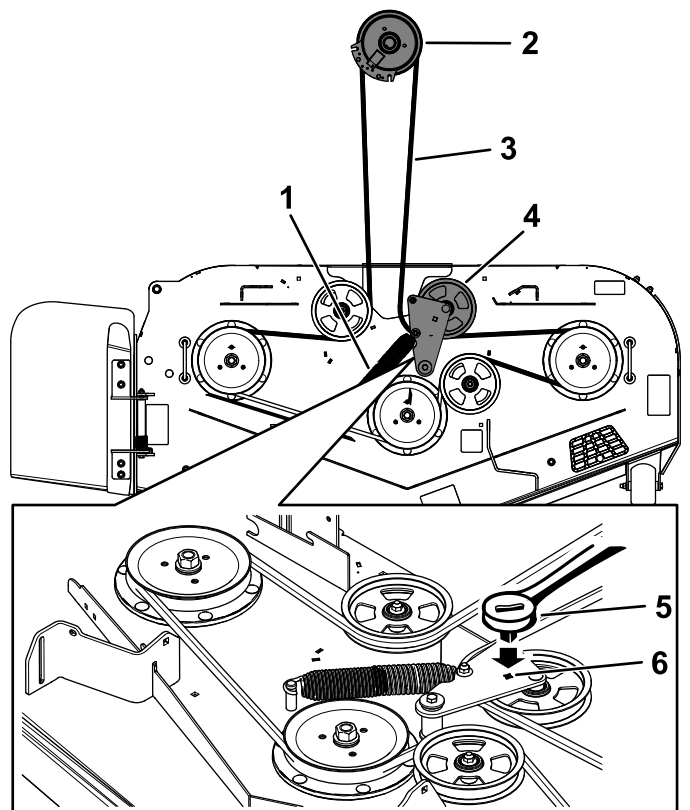

Figure 61
13. Install the belt guide on the idler arm (Figure 61).
14. Using the 3/8-inch ratchet in the square hole, install the idler spring (Figure 61).
8. Use a 3/8-inch ratchet in the square hole in the idler arm to remove tension on the idler spring (Figure 61).
10. Remove the belt guide on the spring-loaded idler arm (Figure 61).
12. Install the new belt around the mower pulleys and the clutch pulley under the engine (Figure 61).